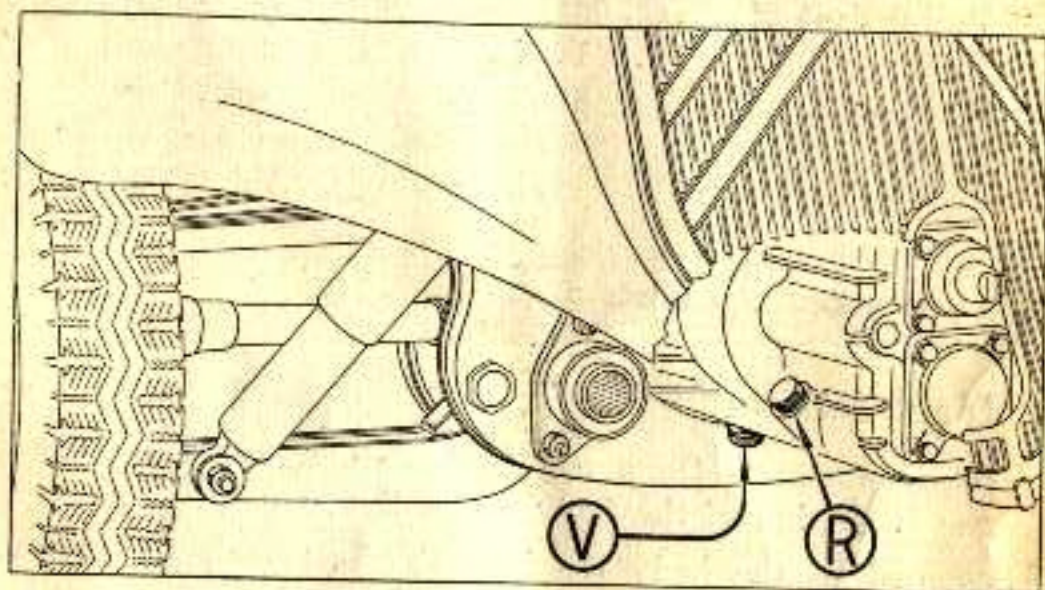

Fig. 16.
Check the oil level in the gearbox; remove the Filler Plug R (fig. 16).
- a. — drain and refill the gearbox (Drain Plug V, fig. 16).